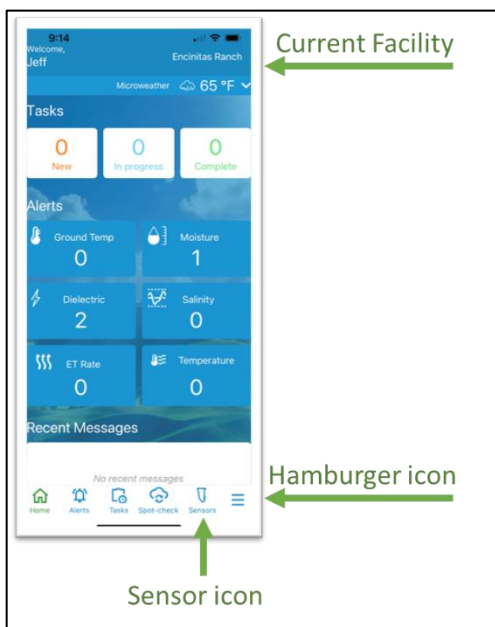

Figure 5
- c. Ensure you have the “Current Facility” selected. Your Current Facility is in the upper right-hand corner of the mobile app home screen. (Figure 5)
- i. To select a different Facility, tap the Hamburger icon to display options screen. (Figure 5)
- iv. The correct Facility is now displayed in the right-hand corner of the home screen (Figure 5)
- d. Tap the “Sensors” icon on the bottom of the screen. (Figure 5)
- b. Tap the “Sensors” icon on the bottom of the screen. (Figure 5)